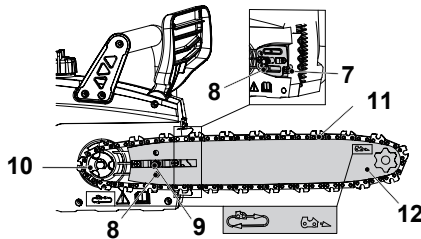

Fig. 3
- Align the saw chain (11) and guide bar (12) assembly with the drive sprocket (10) and the mounting bolt (9). Lay the saw chain (11) around the drive sprocket (10) and then lower the guide bar (12) to install it to the mounting bolt (9) (Fig. 3).
- Make sure the tension pin (8) is inserted into the lower hole on the guide bar (12). Screwing the tension screw (7) in to adjust the tension pin (8) to the end of slot with one suitable screwdriver.